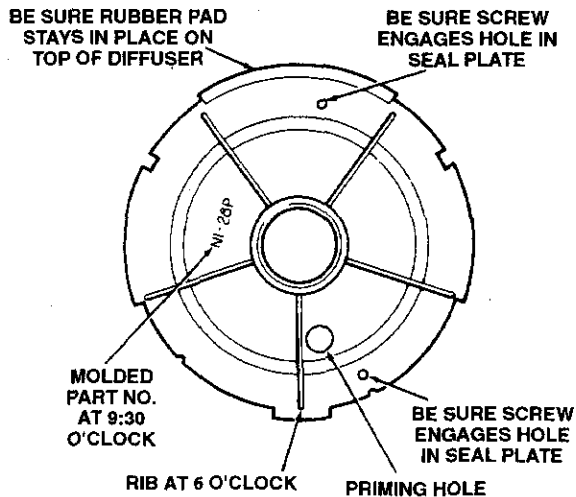

Figure 12
- Both mounting screws must engage screw holes in seal plate. See Figure 12.
- Be sure rubber pad (Figure 12; Key No. 8, Page 12) stays in place on top of diffuser.